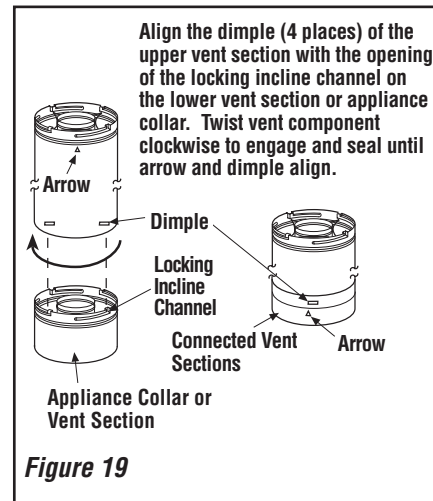

Figure 19
B. Attach vent components to appliance - Secure Vent SV4.5 direct-vent system components are unitized concentric pipe components featuring positive twist lock connections (see **Figure 19**).
To attach a vent component to the appliance collar, align the dimpled end over the collar, adjusting the radial alignment until the four locking dimples are aligned with the inlet of the four inclined channels on the collar (refer to **Figure 19**). Push the vent component against the collar until it fully engages, then twist the component clockwise, running the dimples down and along the incline channels until they seat at the end of the channels. The unitized design of the **Secure Vent™** components will engage and seal both the inner and outer pipe without the need for sealant or screws. If desired, a #6 x 1/2" screw may be used at the joint, but is not required as the pipe will securely lock when twisted.
Push the vent component against the previous section until it fully engages, then twist the component clockwise running the dimples down and along the incline channels until they seat at the end of the channels. **This seating position is indicated by the alignment of the arrow and dimple as shown in Figure 19.**
Secure Vent SV4.5 direct-vent system components are unitized concentric pipe components featuring positive twist lock connection, (refer to **Figure 19** on **Page 14**). All of the appliances covered in this document are fitted with collars having locking inclined channels. The dimpled end of the vent components fit over the appliance collar to create the positive twist lock connection.
D. Attach vent components to appliance - To attach a vent component to the appliance collar, align the dimpled end over the collar, adjusting the radial alignment until the four locking dimples are aligned with the inlets of the four incline channels on the collar (see Figure 19 on Page 14).
Push the vent component against the previous section until it fully engages, then twist the component clockwise running the dimples down and along the incline channels until they seat at the end of the channels. **This seating position is indicated by the alignment of the arrow and dimple as shown in Figure 19 on Page 14.**
The elbows feature a twist section to allow them to be routed about the center axis of their initial collar section to align with the required direction of the next vent run element. **Twist elbow sections in a clockwise direction only so as to avoid the possibility of unlocking any of the previously connected vent sections (see Figure 19 on Page 14).**